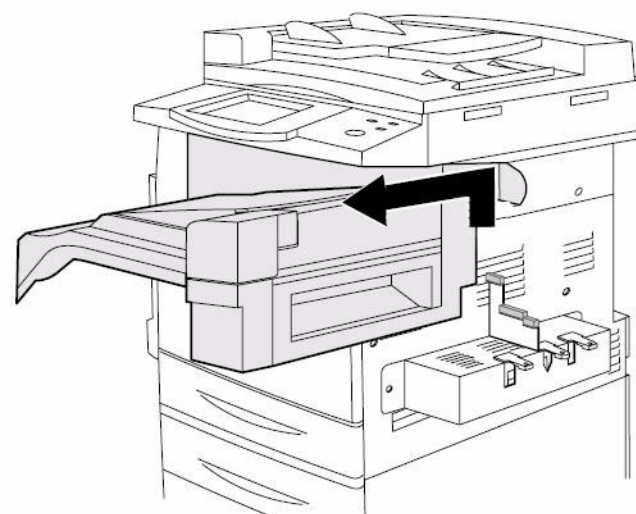

Figure 3 Removing the Finisher H-Transport Assembly
6. Remove the H-Transport Assembly (Figure 3).